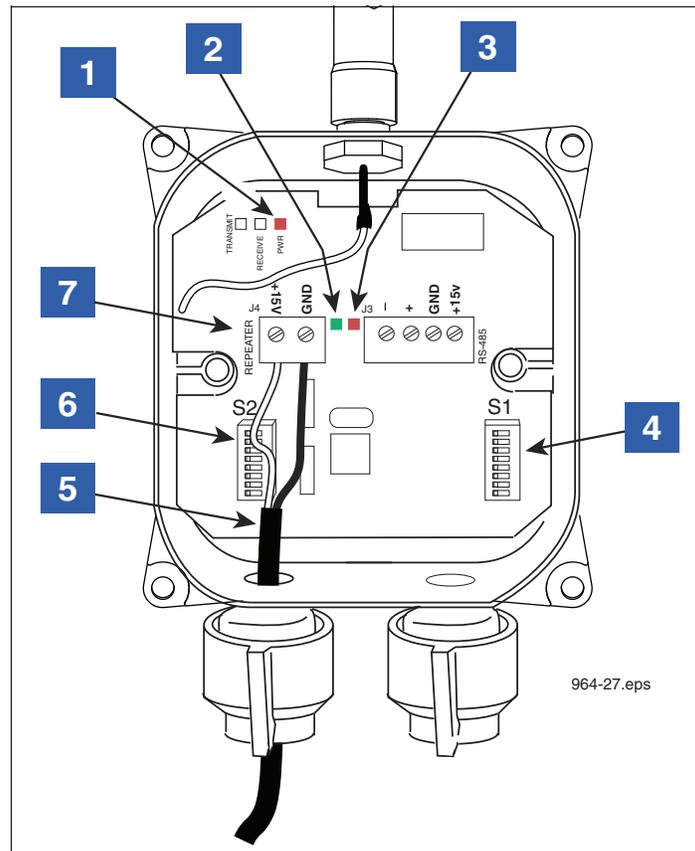

Figure 22. Wiring the Repeater
4. Note the cover of the Repeater indicates the cord grip to be used for the cable connecting the Repeater to its dc power source (item 5 in Figure 22). Remove the cover of the Repeater and set it aside.
6. Connect the 2-wire dc power cable to the Repeater terminal block, white to +15 Vdc and black to GND (see item 7 in Figure 22).
LEGEND FOR NUMBERED BOXES IN Figure 22